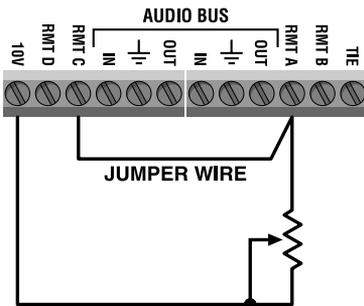

Fig. A.2 Master/Client Remote Control Wiring
1. Select which input you want to use as the master input. Connect the remote control pot to it. (Input A is the master in Figure A.2.)
To control the level of Inputs A and C with the pot for Input A, remove the Input C scaling resistor (R79) and add a jumper between the A and C remote inputs as shown in Figure A.2.